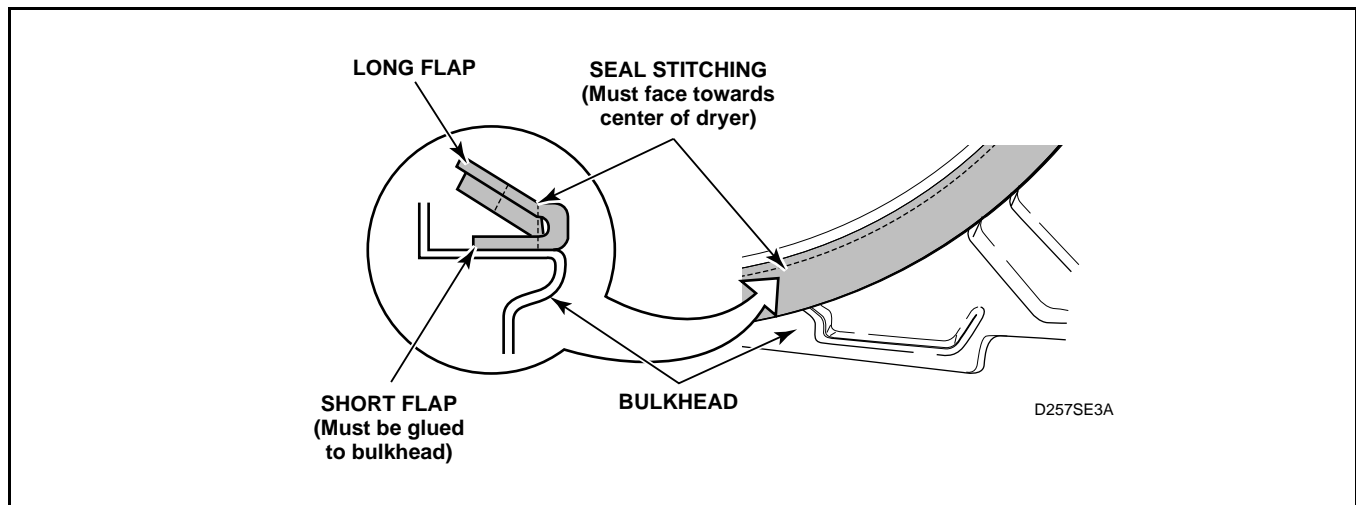

Figure 28
- i. Front Cylinder Seal (*Figure 28*)